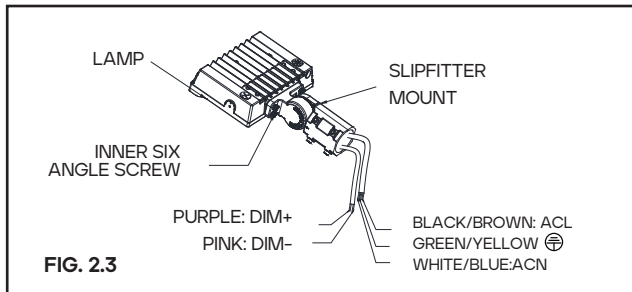

FIG. 2.3
STEP 2. Finish the wire connection according to the right mode of connection (pay attention to positive wire, negative wire, and ground wire), and then put the wire into lamp pole. **FIG. 2.3**